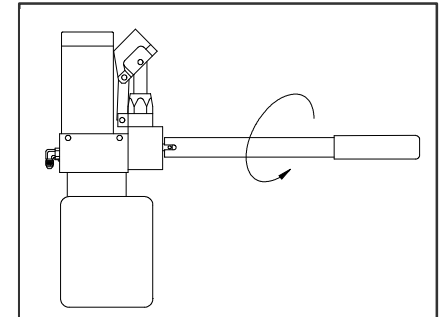

FIGURE 3-17: OPEN RELEASE VALVE
- 9) Refer to **Figure 3-17**. Engage pump release valve with notched end of pump handle. Turn valve 1/4 turn COUNTER-CLOCKWISE to begin lowering platform. Hold valve open until platform settles at ground level. Turn handle CLOCKWISE to close valve; DO NOT OVERTIGHTEN VALVE.